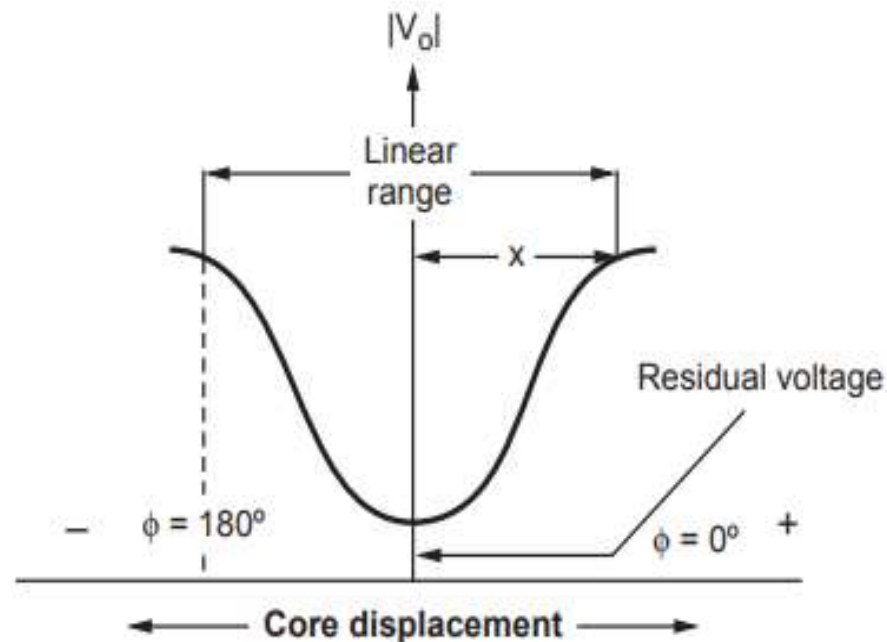

Fig. 1.10.4 Output voltage versus core displacement
- The output voltage versus core displacement characteristic is shown in Fig. 1.10.4.